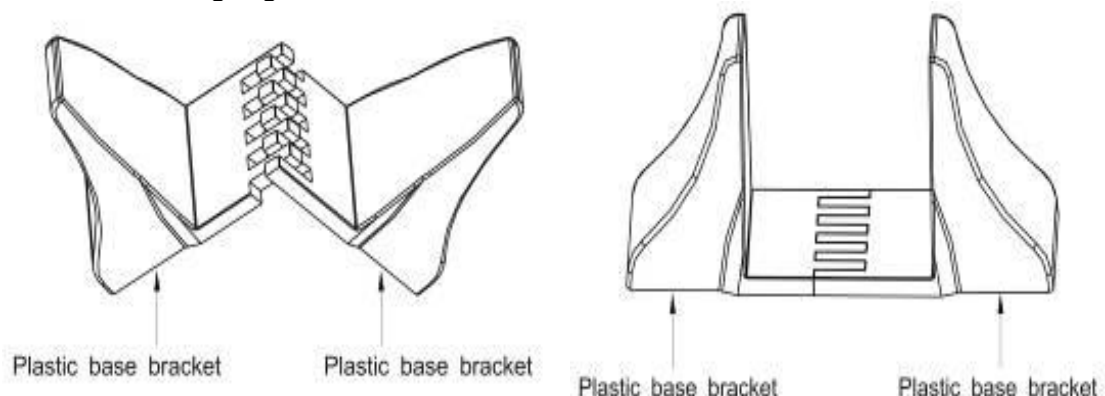

Figure11 – plastic base installation
- c) If an EBP is needed to be placed in the middle, the assembly of plastic base is similar (Figure11). The difference is that two 1U plastic base extended boards are added in the middle.(as the following shows)